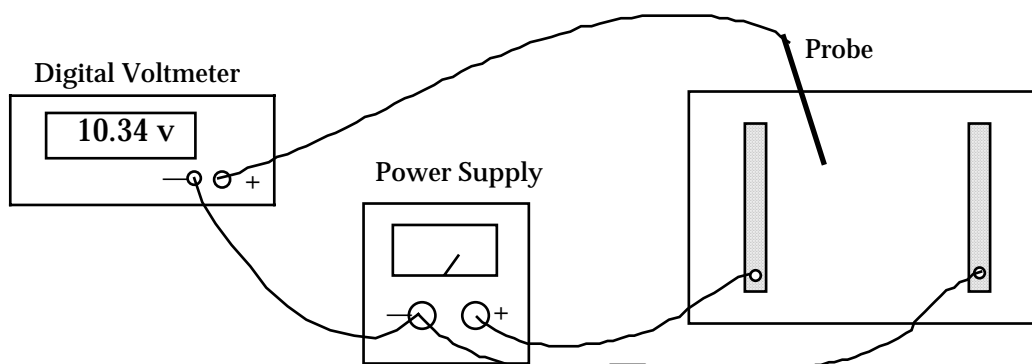

Figure 2. Arrangement for measuring potentials.
**Effective Electrode Potential:** Since the adhesive on the back of the tape insulates the metal from the paper somewhat, it is necessary for you to determine the *effective electrode potential*. To do this, insert push pins through each metal electrode and connect them with wires to the (+) and (−) terminals of the power supply respectively. Label the positive (+) and negative (−) electrodes on the carbon impregnated paper. Increase the power supply to 25-30 volts. Setup the multimeter as a voltmeter on the appropriate scale. Connect the ground side (−) of the multimeter to the ground terminal (−) of the power supply (See Figure 2). You are now ready to make potential measurements. First measure the potential of each of your electrodes by touching the multimeter probe directly to the metallic tape. The potential difference you measure should be very close to the voltage setting of the power supply. If not, check that you have connected everything correctly and that your push pins are making contact with the metal part of the tape. These potentials would be the electrode potentials if the tape made perfect contact with the carbon impregnated paper, but it does not. Hence, determine the *effective electrode potential* by measuring the potential on the paper very near to (~ 1 mm) but not touching the tape. Make several measurements along each electrode and use the average value as the *effective electrode potential*. Write the effective potentials next to each electrode.
**Equipotential Lines:** Using the arrangement shown in Figure 2 you will first plot the equipotential lines -- lines on which the electric potential is constant. Touching the probe of the meter to the paper, find a place where the meter reads a whole number of volts (e.g. 15 not 15.4, etc.) which is approximately half way between the effective potentials. Mark this point with a pencil. Now move the probe around the paper to find other points at the same potential. Mark each of these points with your pencil. Find enough points so that you can connect them together to form an equipotential line between and/or around the electrodes. Now plot lines at intervals of 2, 4 and 6 volts etc. on each side of your first equipotential line. Also plot the equipotential lines close to but not touching the metallic electrodes. Label